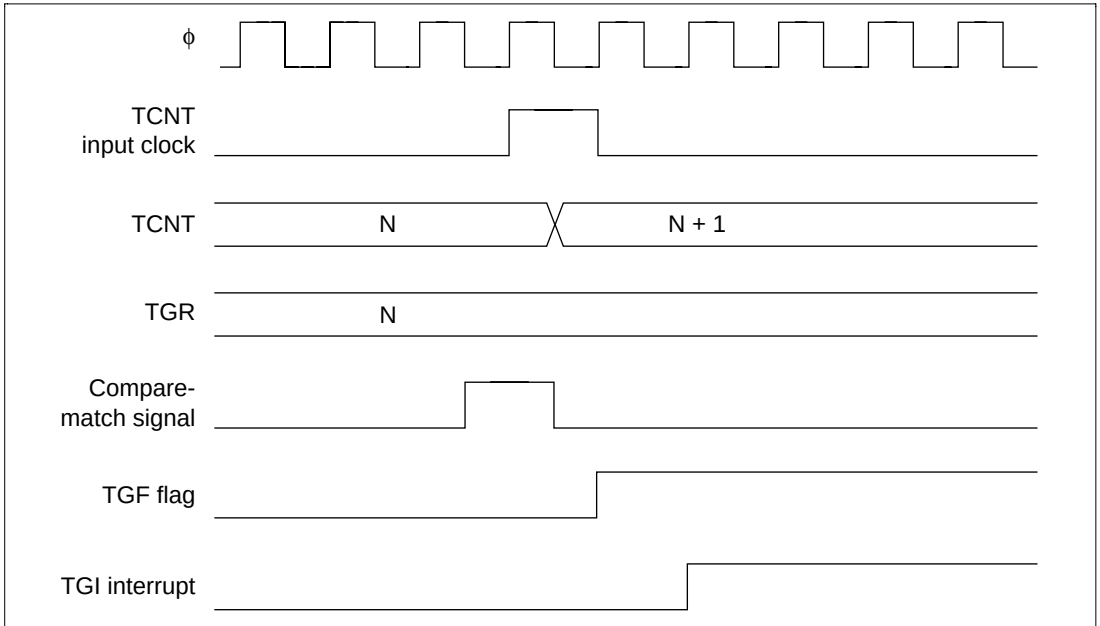

**Figure 12.69 TGI Interrupt Timing (Compare Match)**
**Setting TGF Flag Timing during Compare-Match:** Figure 12.69 shows timing for the TGF flag of the timer status register (TSR) due to compare-match, as well as TGI interrupt request signal timing.